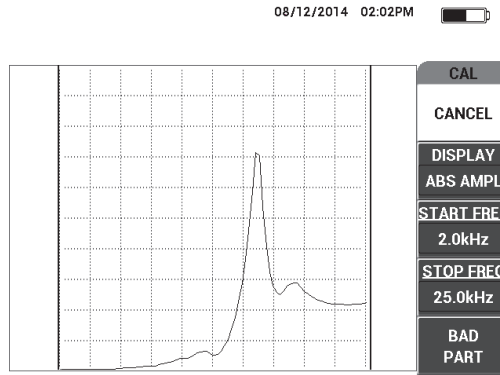

Figure 6-63 The signal for the smaller defect
4. Hold the probe tip over the smaller, or most critical defect, and then press **BAD PART** (E key) [see Figure 6-63 on page 177].